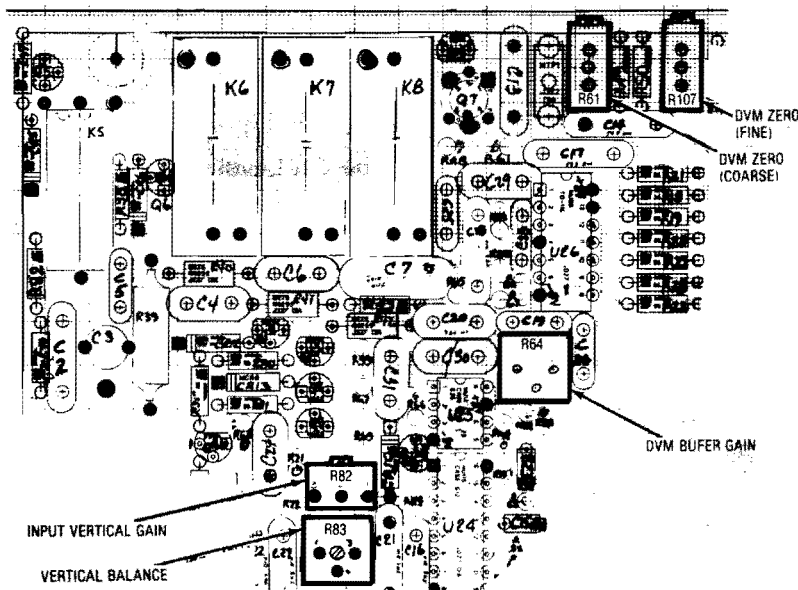

Figure 5-14. Front Panel Interface Alignment Points
5. Adjust the Input Vertical Gain Potentiometer on the Front Panel Interface Board (Figure 5-14) for a 6 cm p-p sinewave on the CRT. (Use the front panel Position Controls to center the waveform on the CRT.)
3. Adjust the DVM Zero (Coarse) and the DVM Zero (Fine) Potentiometers on the Front Panel Interface Board (Figure 5-14) for a zero reading on the DVM Display.